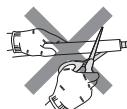
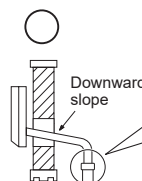

Fig. 1
Fig. 2
- 5) Attach conduit pipe (for rear piping) / elbow joint (for right, left, or downward piping) to conduit plate with lock nut. The thread of the installed conduit pipe / elbow joint appearing inside should be less than 3/8 inch (10 mm). (Fig. 1) Elbow joint should appear less than 1-3/16 inches (30 mm) outside. (Fig. 2)
- Pull out the drain cap at the back right of the indoor unit. (Fig. 1)
- Pull out the drain hose at the back left of the indoor unit. (Fig. 2)
- Do not cut the drain hose of the unit. (Fig. 1)
- The drain hose should point downward for easy drain. (Fig. 2)